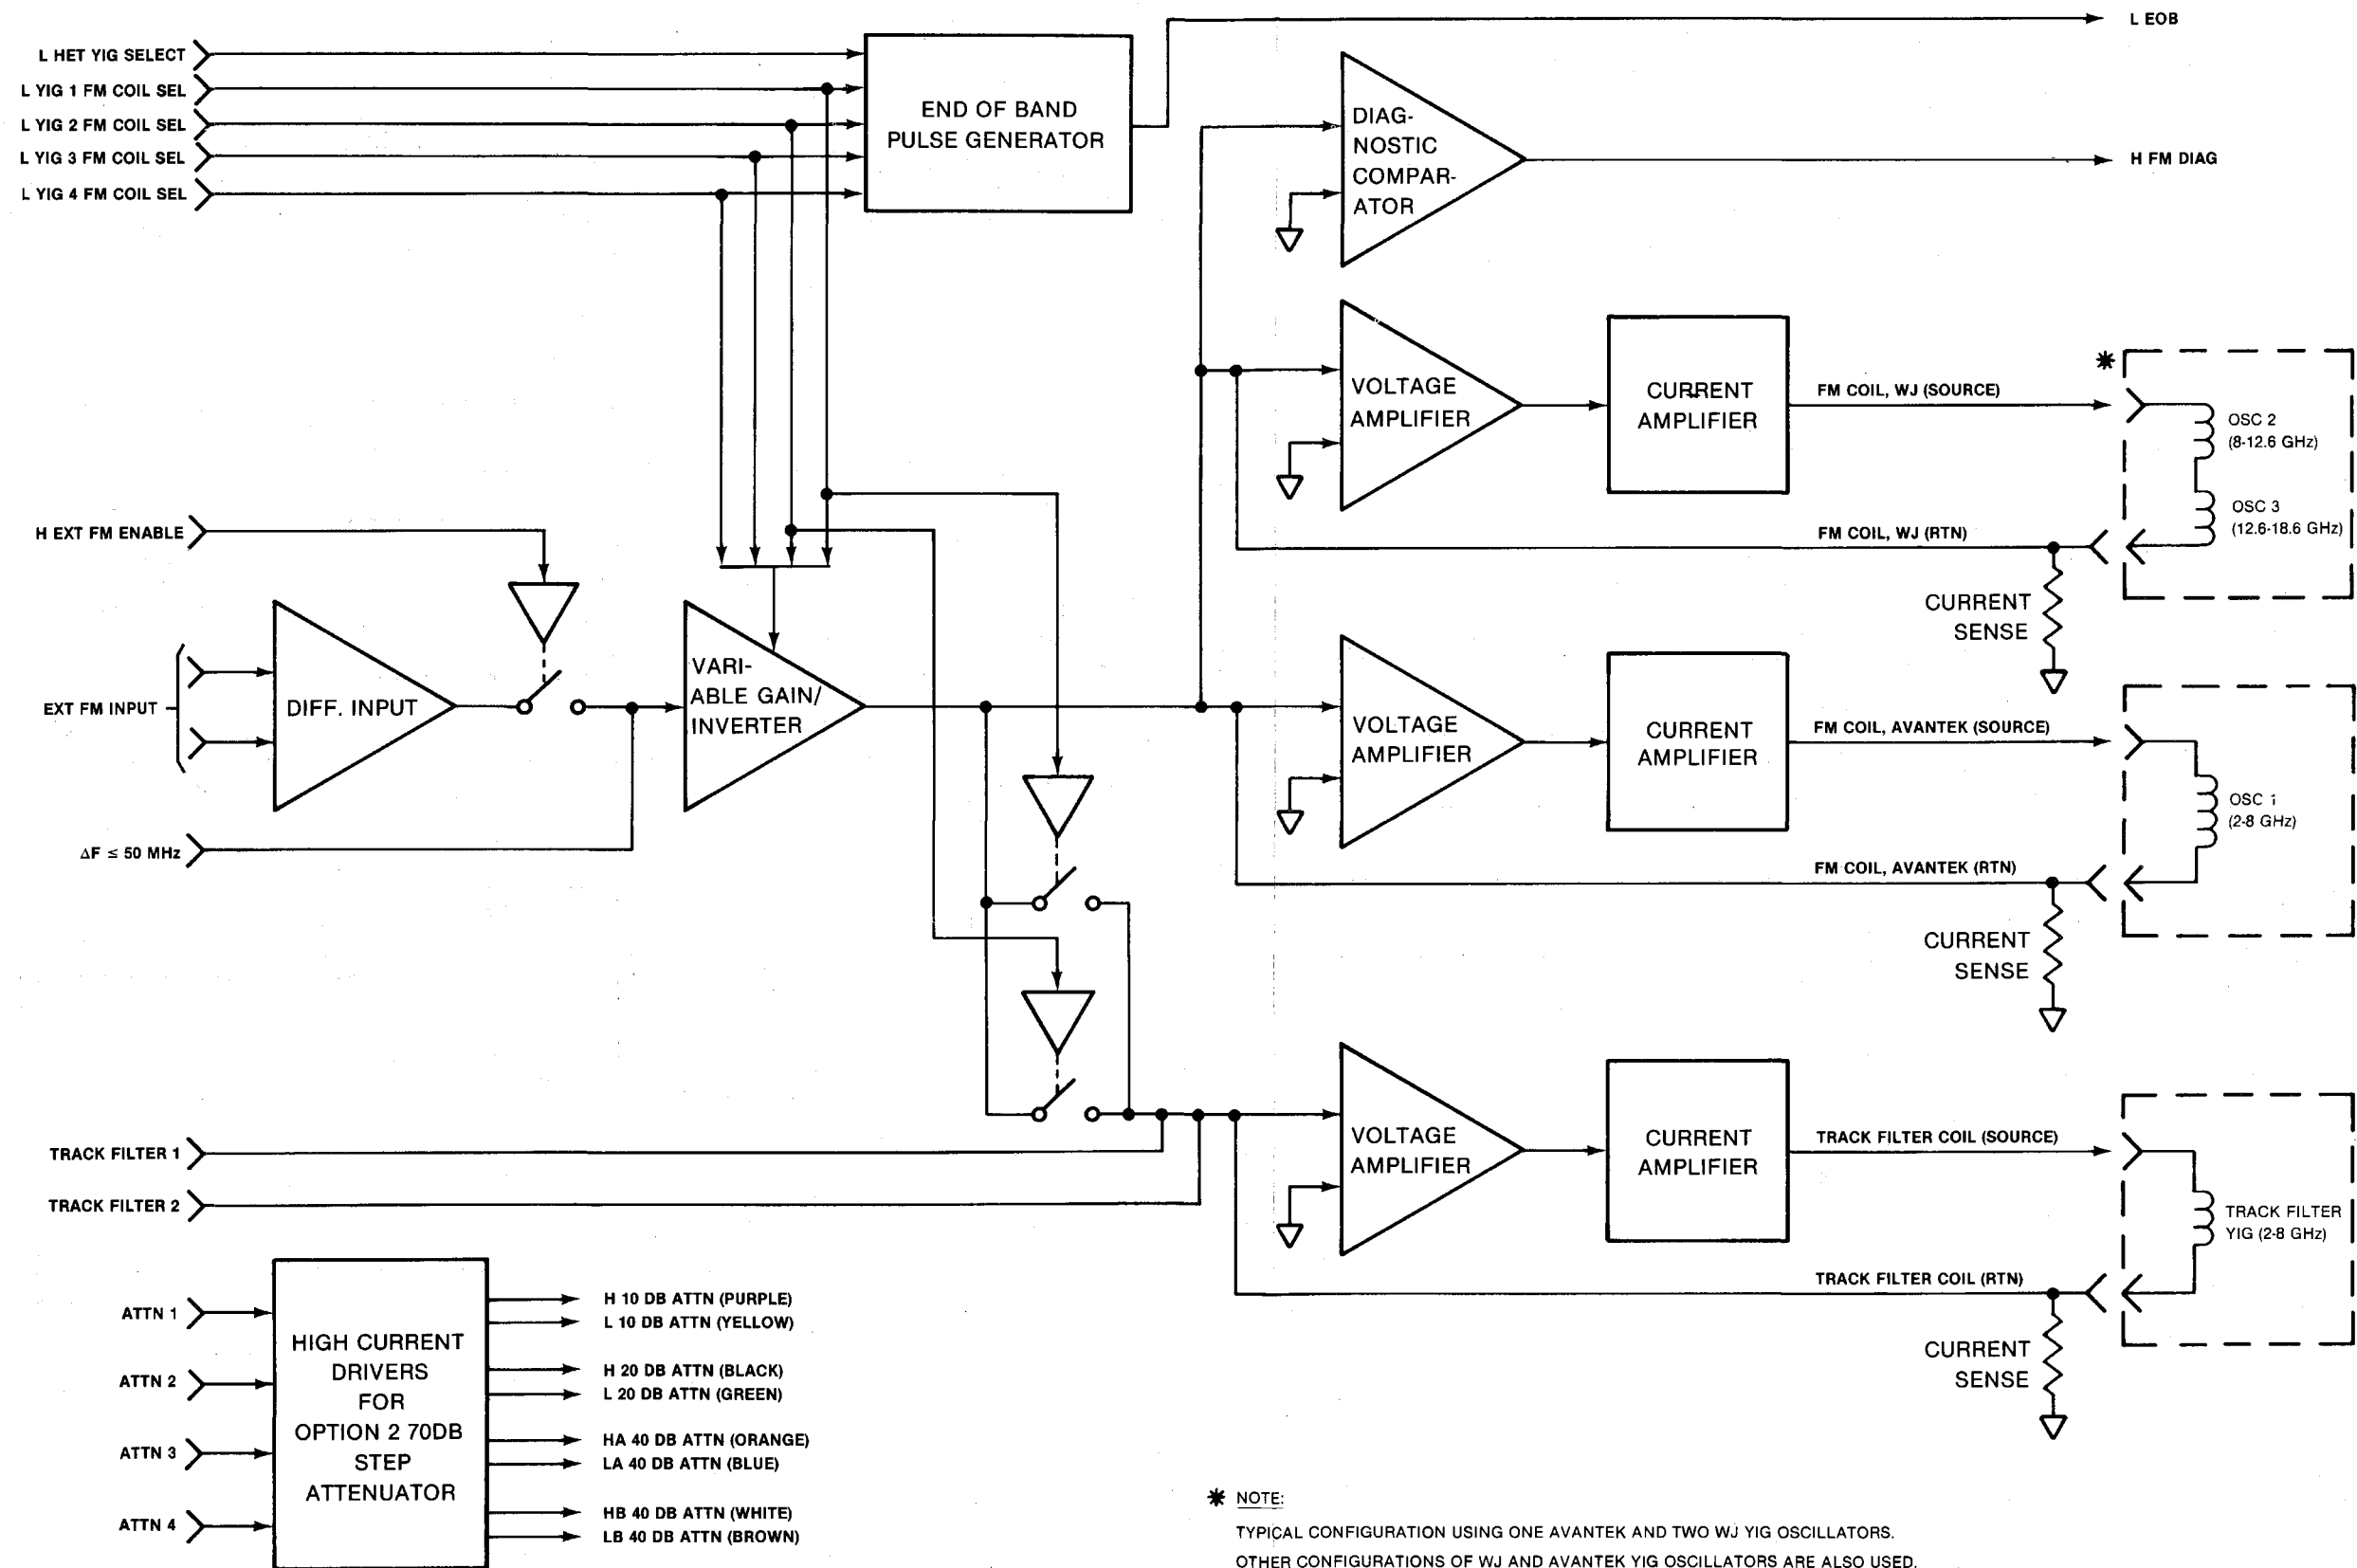

Figure 7-89. A10 FM/Attenuator PCB Functional Block Diagram
The A10 FM/Attenuator PCB has two primary functions. The PCB generates currents that control (1) FM modulation for the YIG oscillators, (2) drive for the 2 to 8 GHz YIG tracking filter, and (3) operation of the optional 70 dB Step Attenuator. In addition, this PCB generates the End of Band (EOB) signal that is used on the A2 PCB (paragraph 7-9.1). A functional block diagram of the A10 circuitry is shown in Figure 7-89; the schematic diagram (2 sheets) is shown in Figure 7-90.
The FM input enters this PCB on either the **EXT FM INPUT** signal line, the $\Delta F \leq 50$ MHz signal line, or on both concurrently (Figure 7-89). The $\Delta F \leq 50$ MHz signal line is from the A5 Frequency Instruction PCB. If a delta-frequency sweep mode (ΔF F0, ΔF F1) has been selected and the sweep width (ΔF) is 50 MHz or less, this input is a voltage ramp. As described in paragraph 7-12.1, the amplitude of this ramp depends on the sweep width. For a sweep width of 50 MHz, the amplitude of the ramp is 10 volts (from -5V to +5V). For sweep widths less than 50 MHz, the amplitude of the ramp is proportionally less than 10 volts.